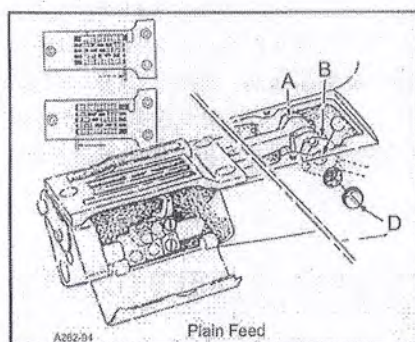

FIG. 10
The feed should be set so there is equal clearance between the front of the feed dog and the front of the feed slot in the throat plate when the feed dog is at its most forward travel. The same amount of clearance should be between the back of the feed dog and the back of the feed slot in the throat plate when the feed dog is at its most rearward travel. To attain this setting loosen screws (A and B, Fig. 10) and remove plug screw (D). Using a screw driver turn eccentric pin (C) clockwise or counterclockwise to obtain proper setting. Tighten screws (A and B), reinstall plug screw (D).